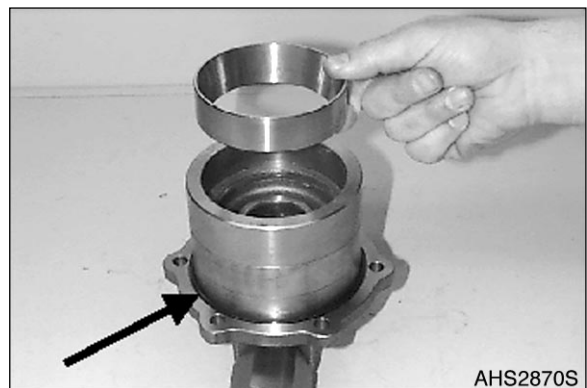

Figure 339
31. Line up O-ring (Figure 339).